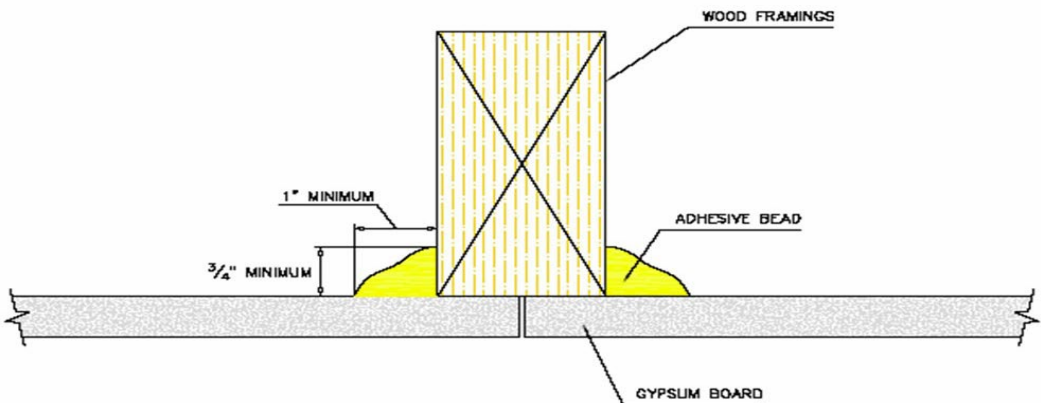

FIGURE 1—APPLICATION OF VORAMER MB 3099 POLYOL TWO-PART POLYURETHANE FOAM ADHESIVE
Voramers MB 3099 adhesive must be used on wood framing with maximum spacing of 16 inches (406 mm) on center for walls and 24 inches (610 mm) on center for ceiling applications. The beads produced must be sized per Figure 1 and Table 1, and a bead must not be greater than 1½ inch (38.1 mm) in size. The adhesive beads are applied along one side of field framing and along both sides at gypsum/sheathing seams.
- 6.1 Report of Figure 1 testing in accordance with ASTM C557 testing.